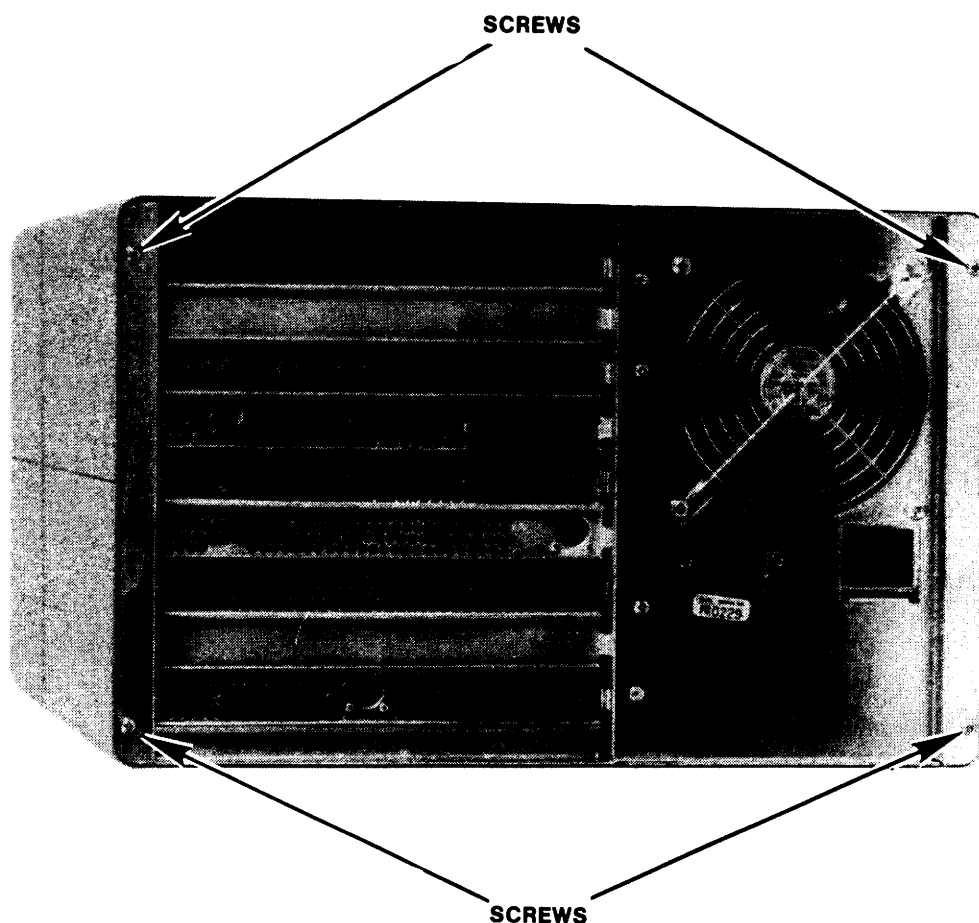

Figure 5-3. System Unit Cover Removal
- 1) Turn the Power Switch (labeled I/O located on the front panel) to the OFF (O) position. Disconnect all the cables (ie. ac power cable, keyboard cable, monitor cable, etc) from the rear of the System Unit.
- 2) Position the System Unit horizontally (air vents pointing down) and remove the four Phillips-head screws from the rear panel. (see Figure 5-3).